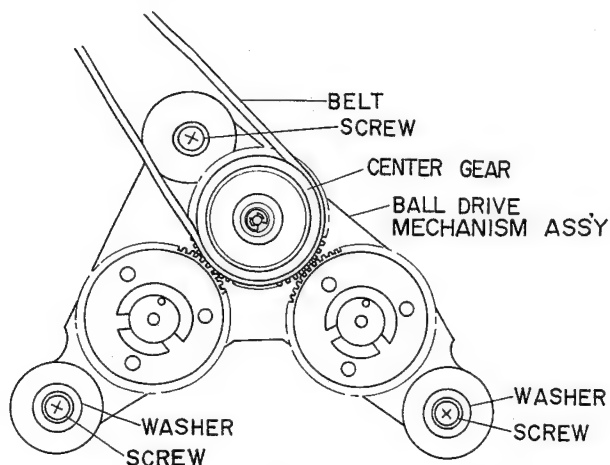

Fig. 5.4 Ball Drive Mechanism Ass'y Replacement
- (3) Referring to Fig. 5.4, remove the belt driven by the reel motor from the groove of the center gear. And remove three sets of screws and washers which fix the ball drive assembly to chassis. Detouch the brake assembly that holds the drum of ball drive assembly, and then remove the ball drive assembly.
- (4) Replace with a new ball drive assembly.
- (5) Mount the belt driven by the reel motor on the groove of center gear. Check to insure that the belt is clean and placed in a correct position.
- (6) Use care to prevent the shut-off belt from interfering with cassette holder assembly. Be sure that the belt is clean, and is placed in a correct position. Make sure not to stick grease on the counter belt. In case grease is stuck on the counter belt, clean it off with an alcohol-dipped cloth.
- (7) Without loading a cassette tape, check to insure that the reel hub on supply side and that on take-up side are stopped, respectively in F.F. mode and rewind mode. (In case either one or both of them is not stationary, replacement of ball drive assembly will be necessary.)
- (8) Loading the torque gauge in the cassette well assembly, check that F.F. and rewind torque are in a range of 50 to 55 g-cm. After mounting the flywheel assembly, capstan belt and flywheel holder, check to see that take-up torque is in a range of 40 ± 5 g-cm. In case these values are not achieved, adjustment should be made following the "5.1.2. Adjustment."